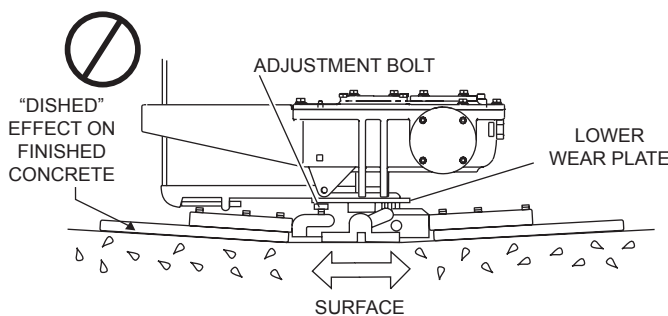

Figure 39. Incorrect Spider Plate Alignment
2. Pitch the blades as flat as possible. The adjustment bolts should all barely make contact with the lower wear plate on the spider. If one is not making contact, adjustment will be necessary (Figure 39).
Figure 39 illustrates incorrect alignment, worn spider bushings, or bent trowel arms. Check that the adjustment bolt is barely touching (0.10" max. clearance) the lower wear plate. All alignment bolts should be spaced the same distance from the lower wear plate.